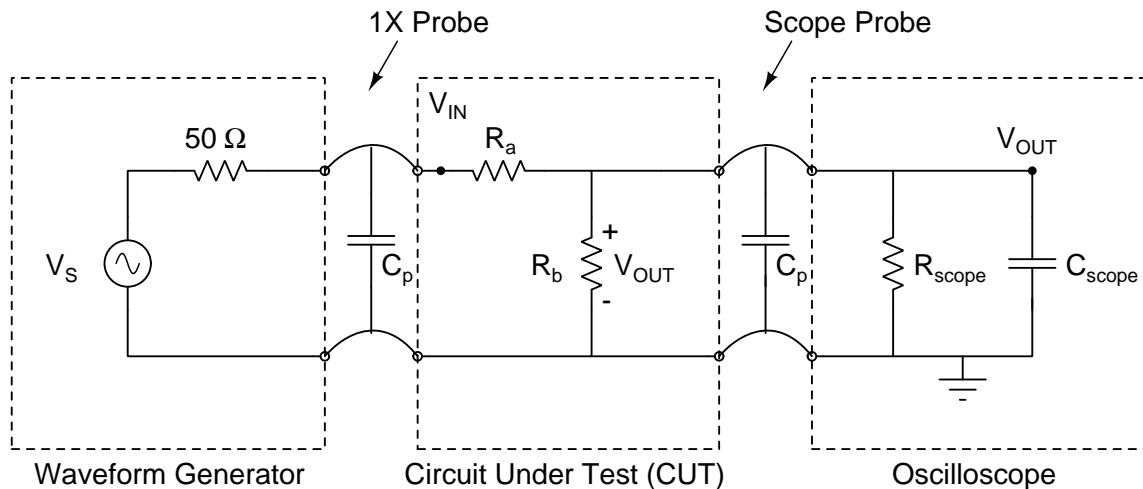

Figure 2: Measurement set-up for the resistor divider circuit.
This lab illustrates that the actual values of the components, and the impedances associated with the test equipment and cables, must be considered when determining the actual value of the voltage across a circuit element. All voltage sources, including batteries and waveform generators, have a finite source impedance. All measurement equipment, including oscilloscopes and digital volt meters (DVMs), have a finite input impedance that presents a load to the circuit. Cables that connect the circuit to the test equipment introduce additional impedances in the circuit. The schematic of the circuit under test (CUT) when connected to a waveform generator (WG) and oscilloscope (scope) is shown in Figure 2.
1. Use Matlab® to plot the capacitance, DF, and ESR as a function of frequency for the 1X-probe and scope probe that you recorded during the **Lab Procedure item 1** and **item 2**.
2. Use NGspice to simulate the expected output voltage V_{OUT} as a function of the resistance R , when the value of R is varied from $10\ \Omega$ to $10\ \text{M}\Omega$. Simulate the circuit of **Figure 2**. Include the capacitance of each probe, the output resistance of the WG, and the input impedance of the scope. A Matlab® file is available at: (https://davidkotecki.com/ECE214/docs/Matlab/ECE214_2022_Lab1.m).
3. Plot the simulated results from Post-Lab **item 2** on a semi-log graph with the x-axis (resistance value) as the logarithmic scale. On the same graph, plot the three measured values of V_{OUT} from **Table 2**.